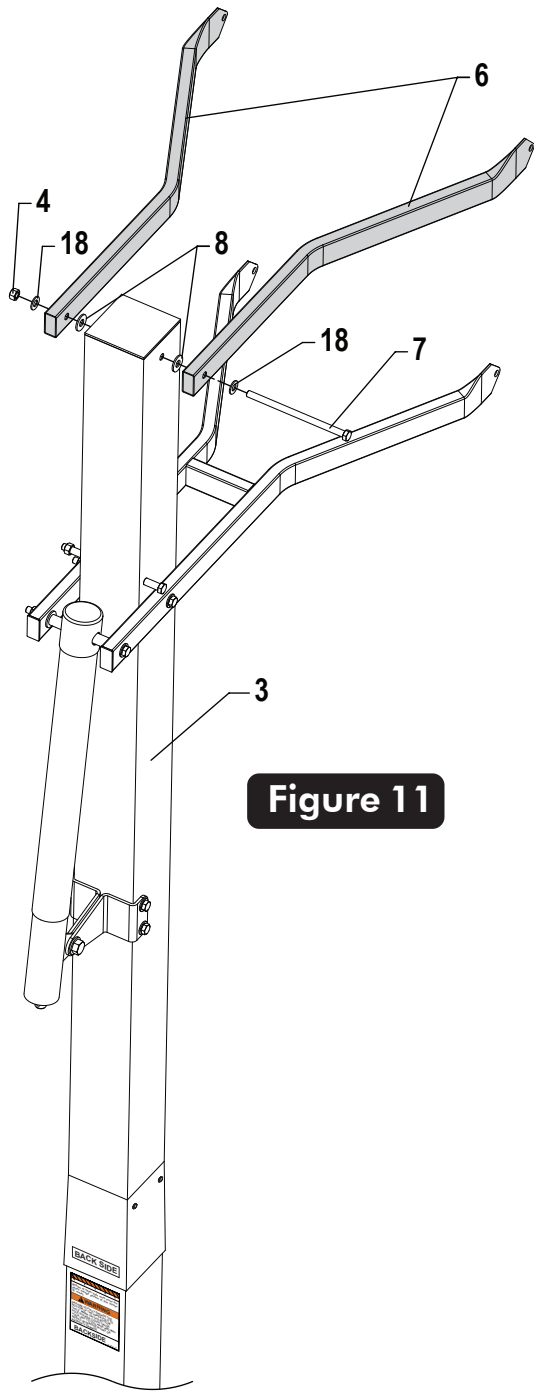

Figure 11
15. Attach of Upper Arms (#6) to Top Pole (#3), as shown in **Figure 11**, using a bolt (#7), two flat washers (#18), two spacers (#8) and one lock nut (#4).